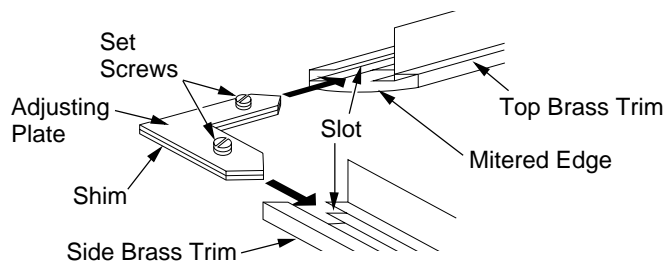

Figure 14 - Assembling Brass Trim
3. Align shim under adjusting plate as shown in Figure 14.
4. Slide one end of adjusting plate/shim in slot on mitered edge of top brass trim (see Figure 14).
5. Slide other end of adjusting plate/shim in slot on mitered edge of side brass trim (see Figure 14).